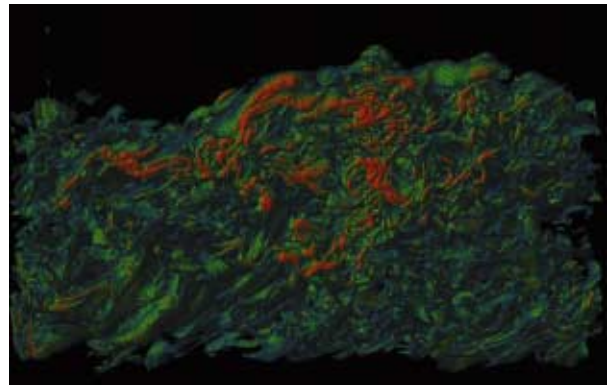

Figure 1. Viscous dissipation of the breakdown of a KH vortex caused by stratified shear flow
Figure 1 shows the viscous dissipation of the breakdown of a Kelvin-Helmoltz (KH) vortex caused by stratified shear flow. Figure 2 shows thermal dissipation caused by this same breakdown. The areas of greatest dissipation, both viscous and thermal, are colored in red. The areas of zero dissipation, both viscous and thermal, are colored in black. The regions with the largest values of the thermal dissipation have the greatest impact on the optical properties of the atmosphere through which the laser beam will travel because of the index of refraction's sensitivity to thermal gradients. In other words, it is in these regions that the high-power laser beam will be distorted and defocused before reaching its intended target.
Figures 1 and 2 were created using scientific visualization package OGLE written by Dr. Michael Gourlay.